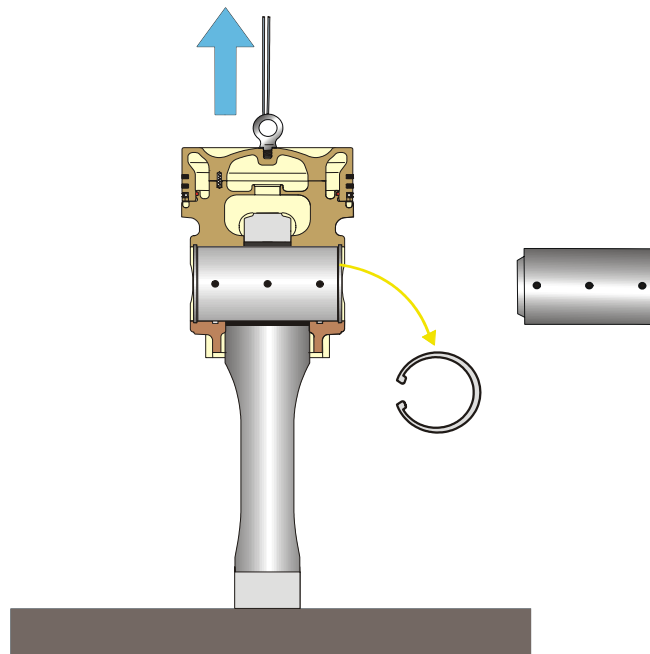

Fig.1 Dismantling the circlips for piston pin (피스톤 핀 서클립의 분해)
4. Dismantle circlips for piston pin by means of plier as shown in fig. 1.